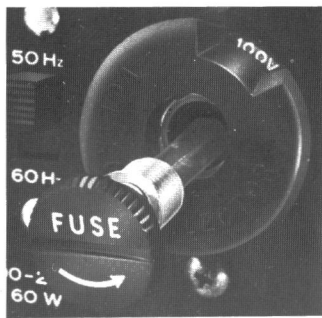

Fig. 3
- (1) Remove the FUSE POST as shown in Fig. 3. Remove the VOLTAGE SELECTOR PLUG and reinsert to desired voltage.
- (2) Change the fuse according to voltage. Fuse: 100 V-120 V 2 A; 200 V-240 V 1 A